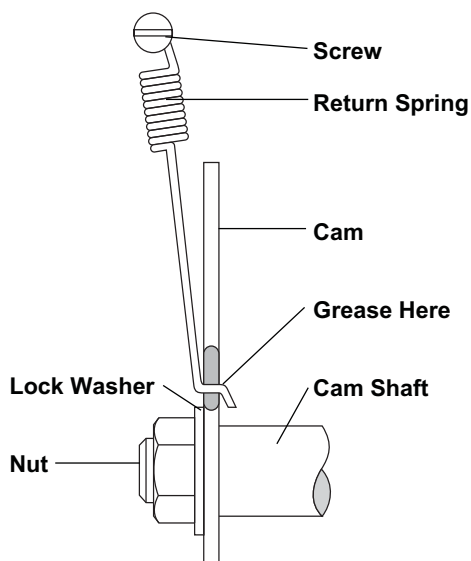

**Figure 8: Beta Positioner Installation on Rotary Actuator**
5. Replace the range adjustment arm (13) and its snap ring (8).
6. Rotate the zero adjustment arm (22) back into place and reinstall the feedback spring (34).
7. Insert the follower pin (62) into the hole in the actuator lever arm and drive it firmly into place with a hammer (see Figure 8).
8. Apply grease to the sliding surfaces of the follower arm (58) before mounting the positioner to the transfer case. When mounting the positioner to the transfer case, make sure to guide the follower arm (58) so the pin slides in the slot on the follower arm (see Figure 8). Fasten the positioner to the transfer case with the three mounting screws. Push up on cam to verify that the pin is riding in the follower arm slot or remove the transfer case cover plate to inspect.